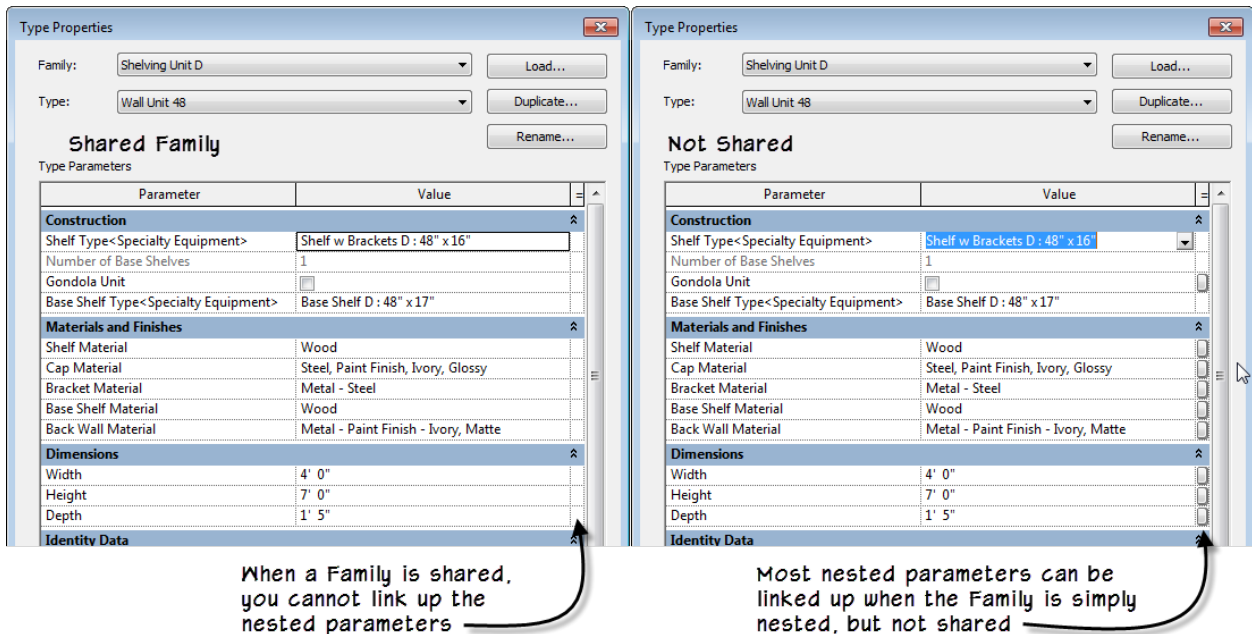

Figure 19—Nested Shared Families cannot have their type parameter values driven by the host Family
- Linking up nested parameters**—If you have a nested Family, you can drive the parameter values in that family from the host family. To do this, look for the small button in the far right column of the Properties palette or "Type Properties" dialog (see the right side of Figure 19 below). You will need to create a parameter in the host family that will drive the value of the nested family parameter. This parameter can have the same name or can be different.
There is a very important consideration when using shared families. If you have nested families that rely on linked type parameters (see the “Linking up nested parameters” bullet point above), you cannot make the family shared. **Shared families cannot have their type parameters driven by a host family.** So you either have to avoid nesting, use **instance parameters** or not use shared families (see Figure 19).